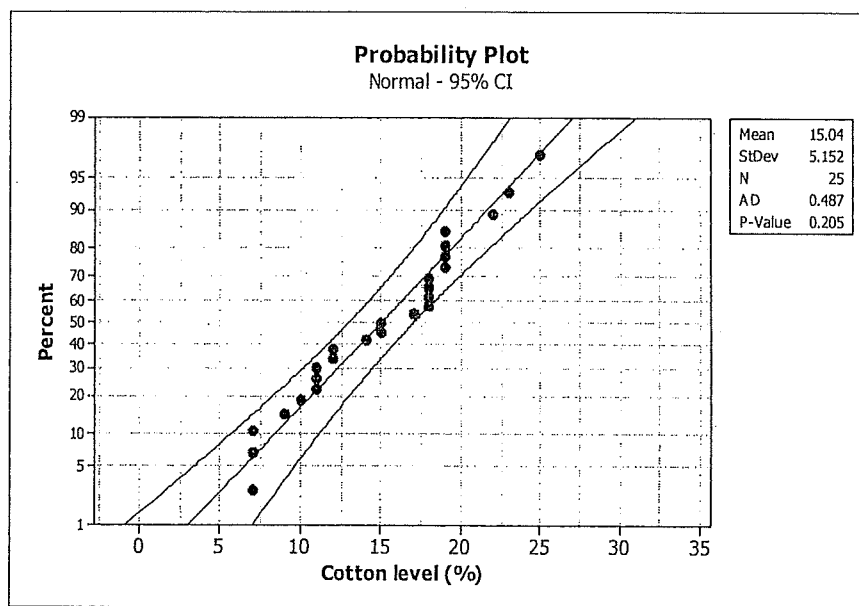
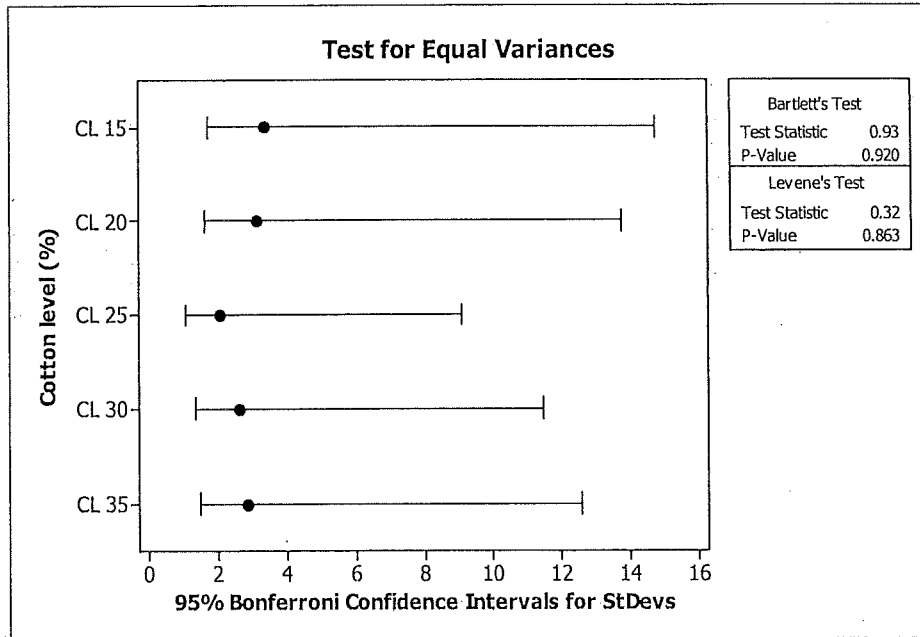

Figure 1: Normal probability plot
Figure 2: Test for equal variance
- (ii) The normal probability plot and test for equal variance are shown in Figure 1 and Figure 2, respectively. Do the assumptions for the model still valid? Explain your answer.